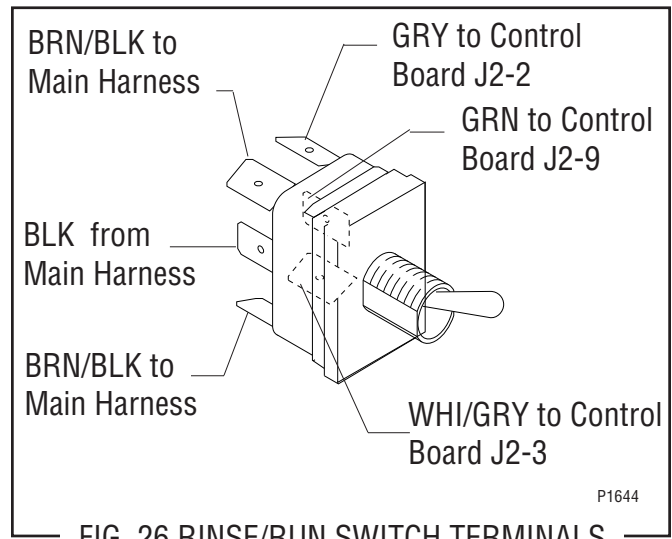

FIG. 26 RINSE/RUN SWITCH TERMINALS
5. Refer to Fig. 26 when connecting the wires to the new switch.